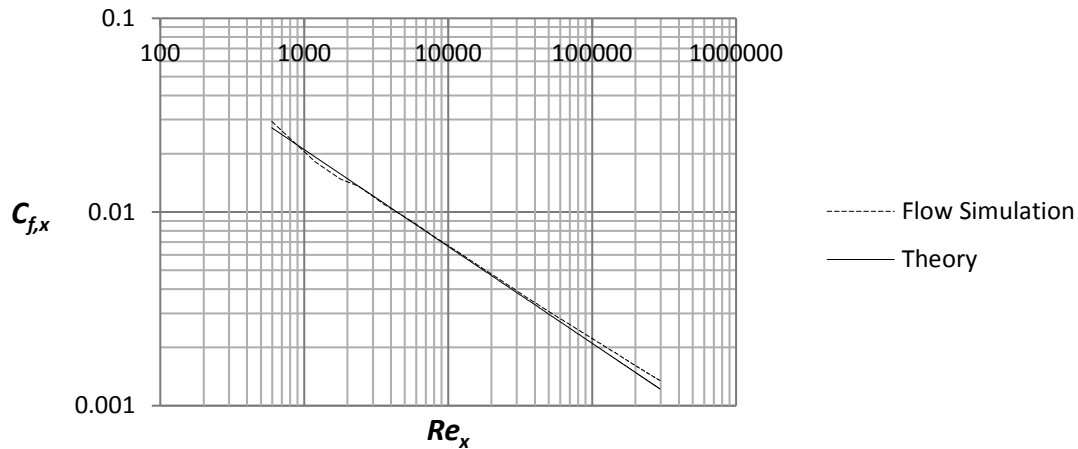

Figure 2.26 Local friction coefficient as a function of the Reynolds number
Place the file “**graph 2.26**” on the desktop. Repeat step 24 but this time choose the sketch  $x = 0 - 0.9 \text{ m}$ , uncheck the box for **Velocity (X)** and check the box for **Shear Stress**. Use the file “**graph 2.26**” to create Figure 2.26. Rename the xy-plot to **Local Friction Coefficient**. Figure 2.26 shows the local friction coefficient versus the Reynolds number compared with theoretical values for laminar boundary layer flow.